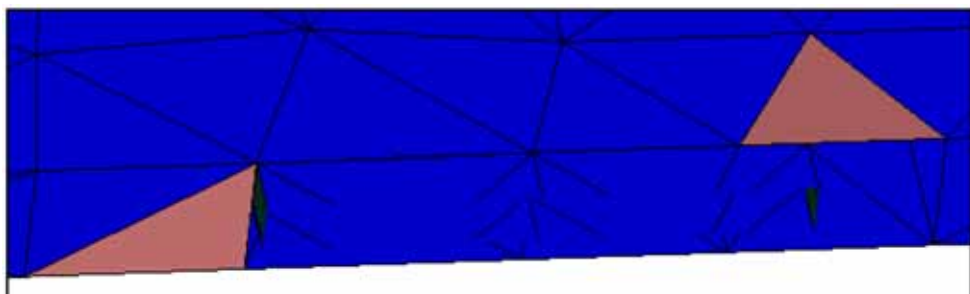

Figure 146: Two elements selected around the finger
7. Select the two elements that intersect the unconnected elements of the finger as shown in Figure 146.